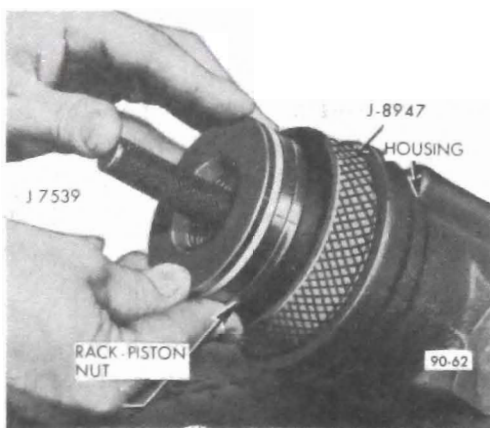

Figure 90-74 Installing Rack-Piston Nut - 43-44-45000 Series
6. Install ring compressor sleeve tool (J-8947 used for 43-44-45000 Series. J-7576 used for 46-48-49000 Series) in gear housing and hold it tightly against shoulder in the housing. See Figures 90-74 and 90-75. Insert the rack-piston nut into the housing until the ball retaining tool J-7539 engages the worm. Turn the stub shaft drawing the rack-piston nut into the housing. When the piston ring is into the housing bore, the ball retaining tool and ring compressor may be removed.